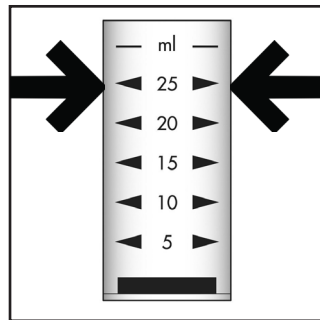

Figure 2
2. Fill the sample cup to the 25 mL mark with the sample to be tested, being careful to minimize turbulence (fig. 2).